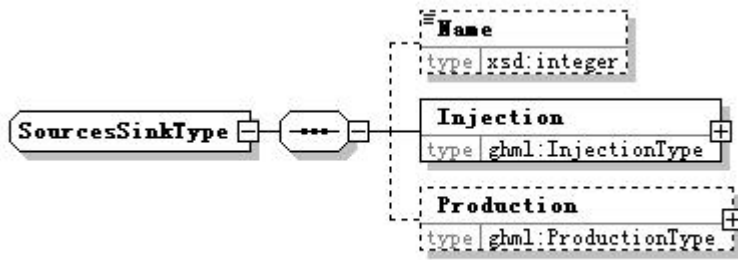

Figure 12. SourcesSinkType
- **SourcesSinks[SourcesSinkType]** - Defines production from or injection into a cell (Figure 12).